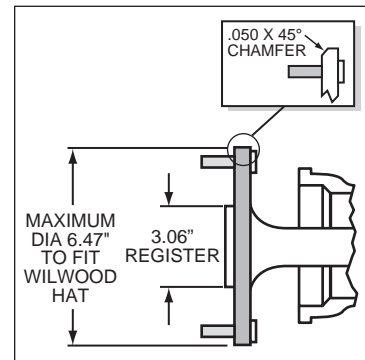

Figure 2. Axle Flange Maximum Dimension
- Axle center register diameter is 3.06", Figure 2. Rotors can either be centered on the axle register, i.e. *register-centric* or centered on the wheel studs, i.e. *stud-centric*. Due to variations in wheel stud final diameters, *register-centric* centering can be a more accurate method of centering the rotor to the axle. Wilwood offers various diameter adapters for purchase, see Table 1.
- Maximum axle flange diameter must be no larger than 6.47" w/.050" x 45° chamfer (Figure 2).